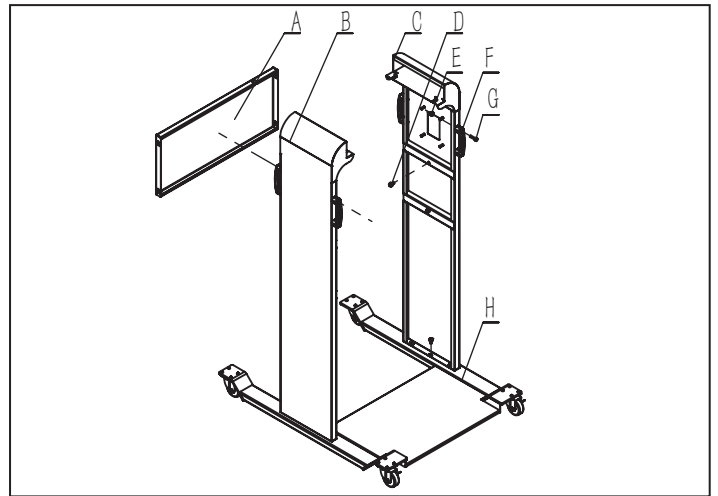

FIG. 6.3.1
6.3.1 Install the column assembly (See FIG. 6.3.1)